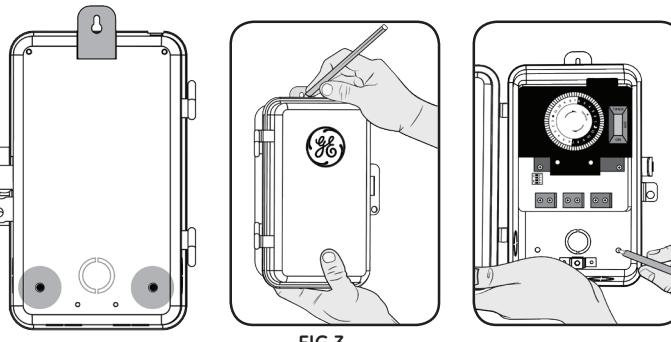

FIG 3
1. Hold the box in place and use the three holes highlighted to mark position on the mounting surface [FIG 3].